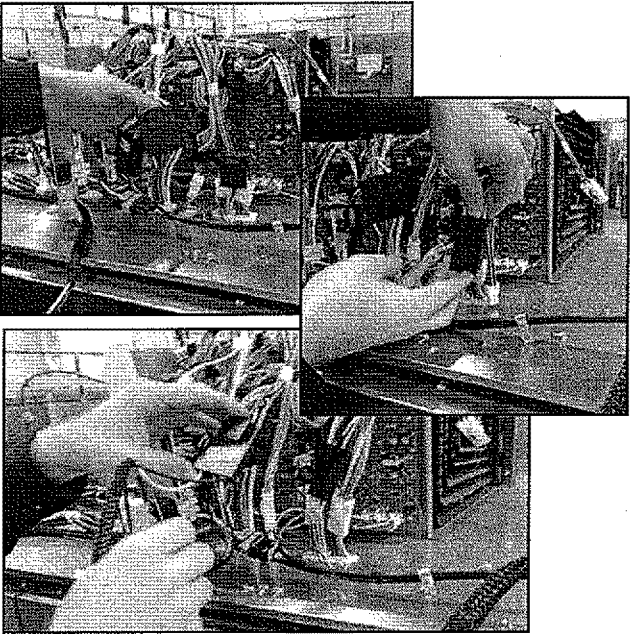

FIGURE 22
23. Connect all the HV box assembly connections from step 7 through step 10. See *Figure 22*.